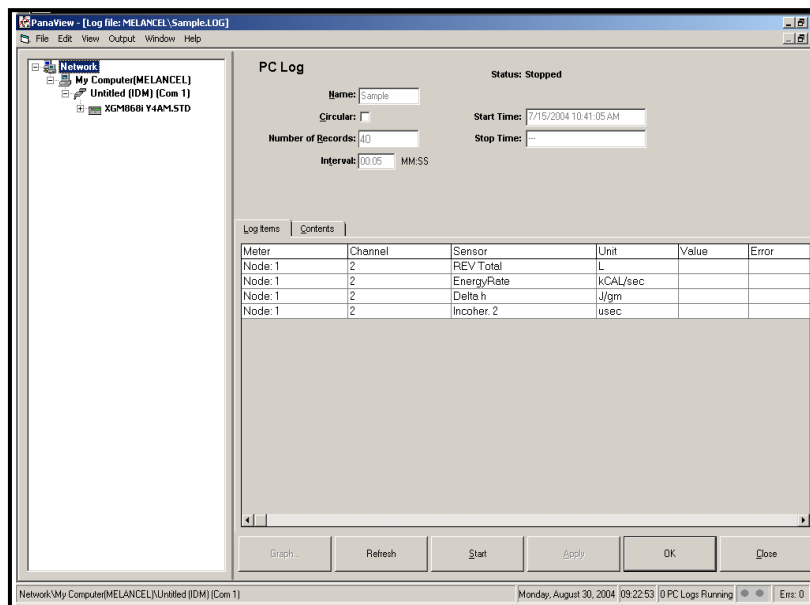

Figure 18: PC Log Window
6. At the resulting *PC Log* window shown in Figure 18, place a check mark in the text box to create a *circular log*, or leave this box empty to create a *linear log*.
7. Enter a sampling *interval* in the text box shown in Figure 18.